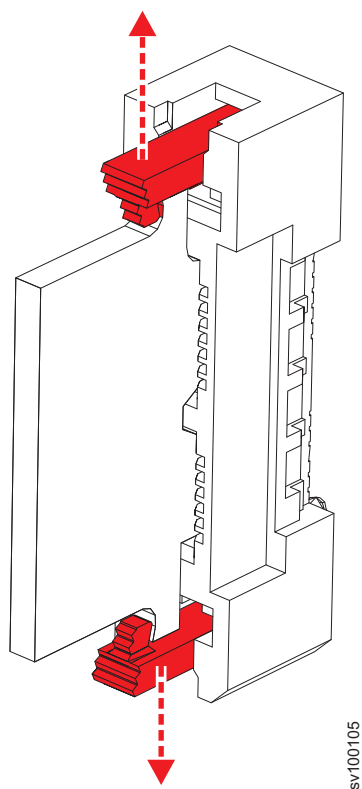

Figure 210. Removing the TPM from the main board of a 2145-SV1 node
8. Push out the locking clips on the side of the TPM to free it, as shown in Figure 210.